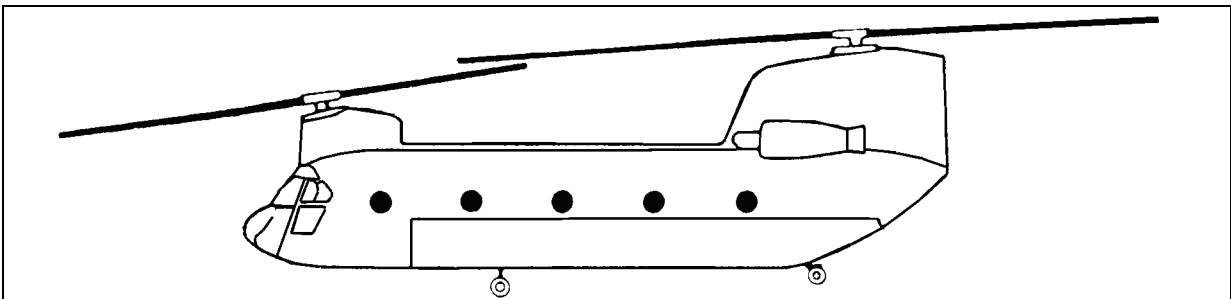

Figure 2-12. CH-47 Chinook
- **H-47.** The H-47 Chinook (Figure 2-12) is a twin engine, tandem rotor helicopter manufactured by the Boeing Helicopter Company. The primary mission of the Chinook is to deliver personnel, supplies, and equipment. The flight engineer lies on the floor and guides the pilot by giving him directions to help him position the aircraft directly over the load.